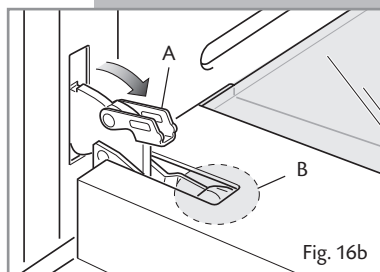
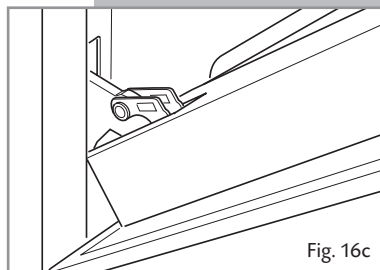

Fig. 16b
Fig. 16c
- Open the lever **A** completely on the left and right hinges (fig. 16b).
- Gently close the door (fig. 16c) until left and right hinge levers **A** are hooked to part **B** of the door (fig. 16b).